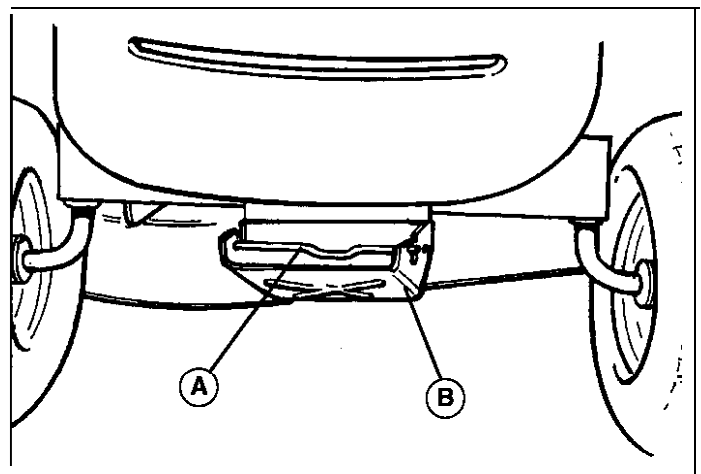

Figure 6. Front Hitch
5. Disconnect the front hitch by pulling out on the release rod (A, figure 6) and lifting the mower hitch off the tractor hitch. Slide the mower deck out from under the right side of the tractor.